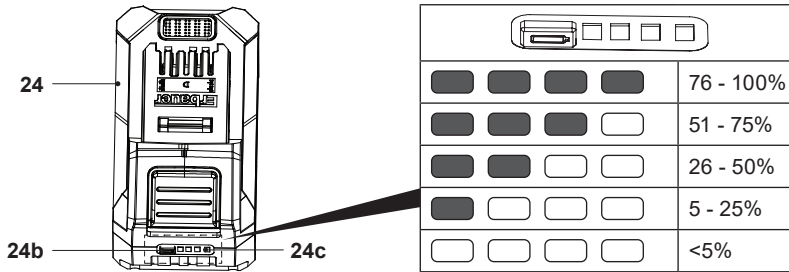

Fig. 9
The battery pack (24) is equipped with battery capacity indicators (24c) which are used to give an indication of the battery pack's remaining capacity. Press the battery capacity button (24b) to check battery capacity (Fig. 9). The LEDs will stay lit for approximately 3 seconds.